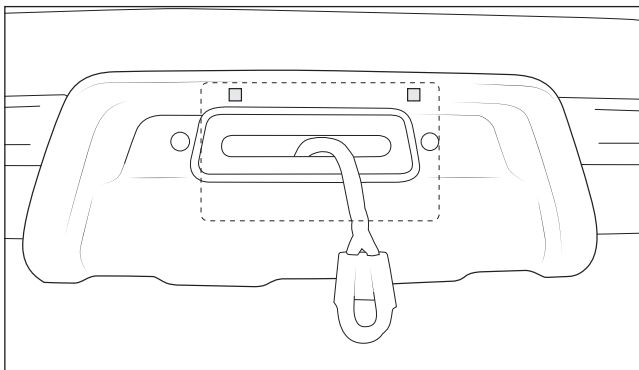

Figure 22A
- A. Follow drilling template AEV30343AA to mount license plate over fairlead. (fig. 22A).